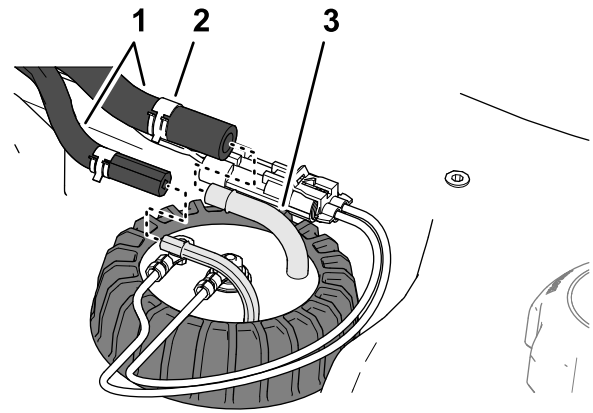

Figure 87
4. Move the clamps that secure the hoses to the fittings of the fuel sender inboard, and remove the hoses from the fittings (Figure 87).